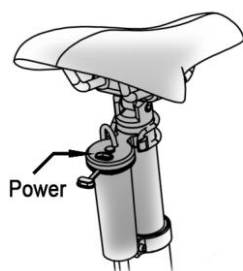

Fig2
Install the taillight power supply onto the seat tube (Fig. 2).
2. Rotate the chainwheel to drive the tension pulley on the derailleur, and check in the hardware window (Figure 2) whether the green and blue indicators appear (Note 2).